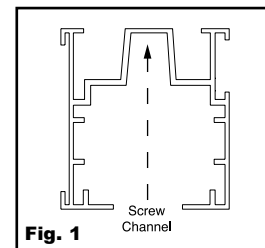

Fig. 1
The Slenderline headrail may either be ceiling mounted using the screw channel (**Fig. 1**), or can be wall mounted using the brackets supplied. Due to the various building materials used in construction, i.e. concrete, dry wall or wood, we do not supply the fasteners or screws.
1. Secure headrail to the mounting surface by running fasteners through the screw channel located in the center of the rail. (**See Fig.1**) Fasteners should be located at each end and at 18" intervals throughout the rest of the rail.
The Slimline headrail may either be ceiling mounted using the ceiling clips (**Fig.1**), or can be wall mounted using the brackets supplied. Due to the various building materials used in construction, i.e. concrete, dry wall or wood, we do not supply the fasteners or screws.